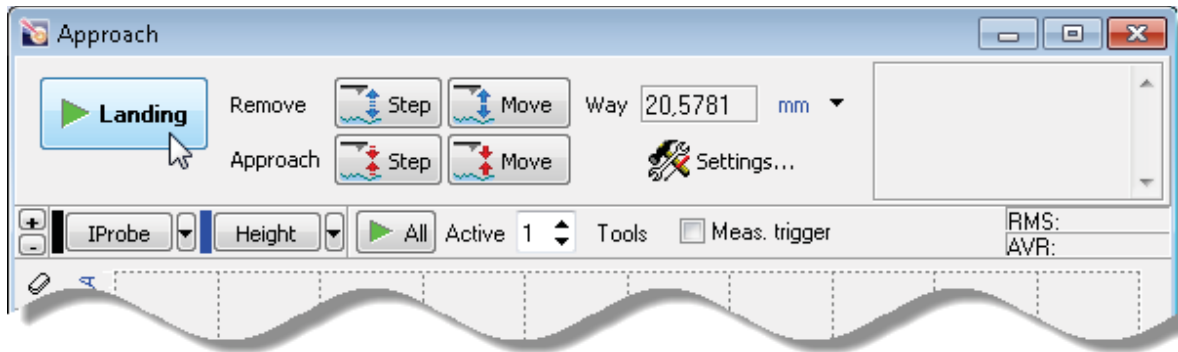

Fig. 10-4. Control panel of the **Approach** window
7. Start the approaching procedure with the  button in the Control panel of the **Approach** window (see Fig. 10-4).